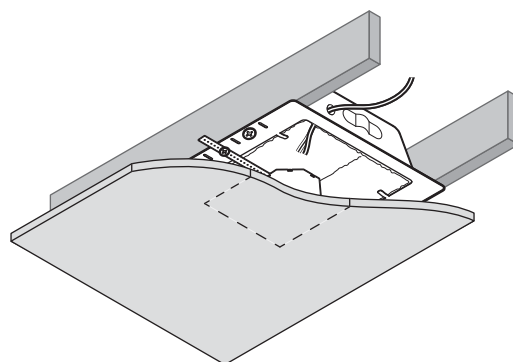

Fig. 6
STEP 6: Cover the backcan. See Fig. 6.